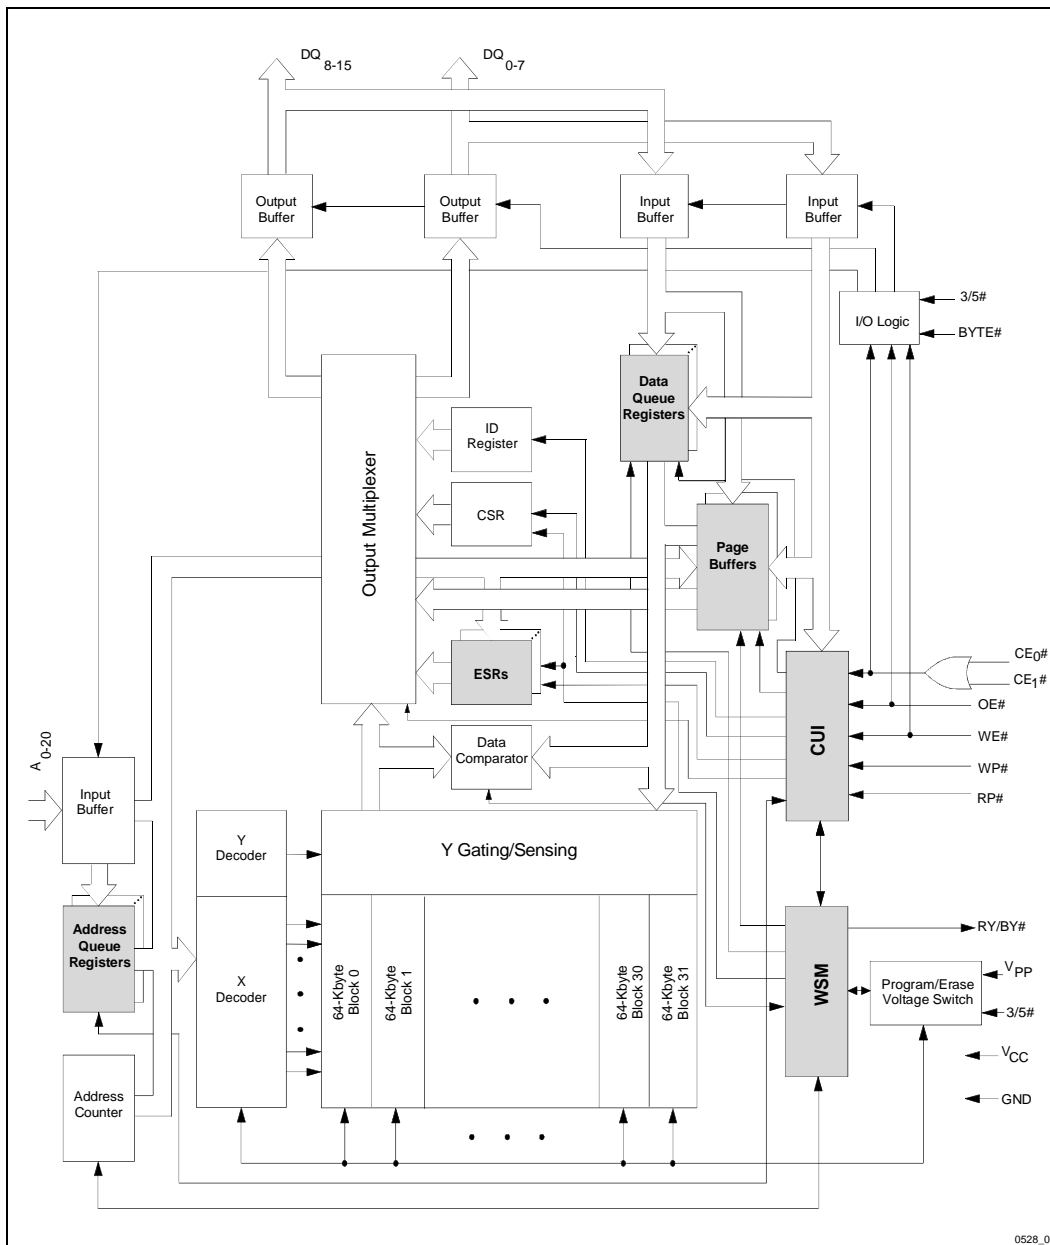
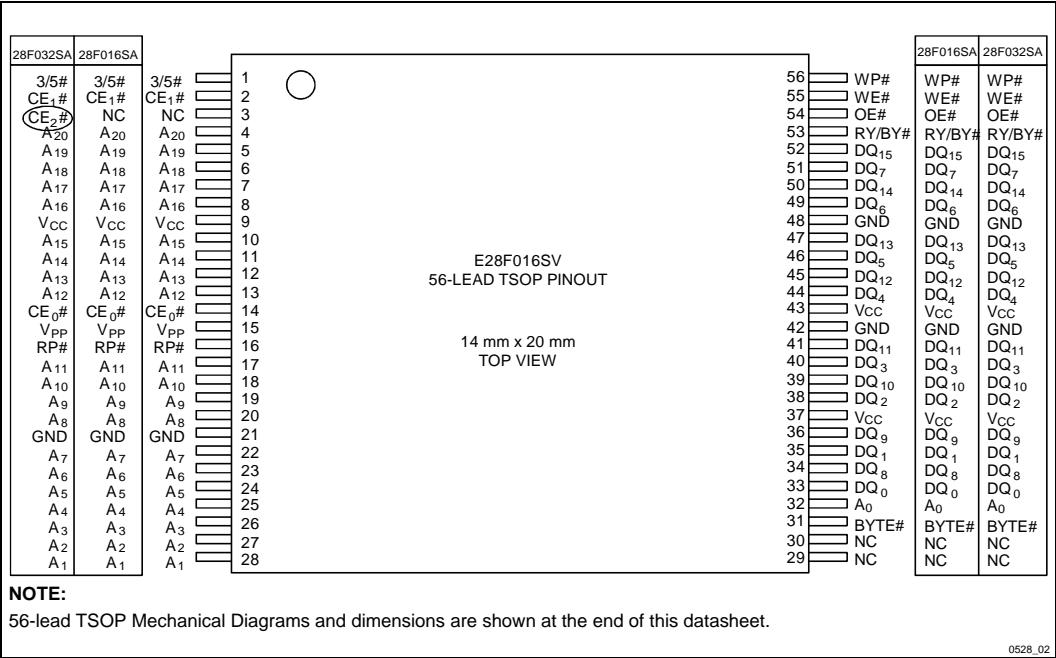

Figure 1. 28F016SV Block Diagram
Figure 2. 28F016SV 56-Lead TSOP Pinout Configuration
-004	<p>Added 3/5# pin to Block Diagram (Figure 1), Pinout Configurations (Figures 2 and 3), Product Overview (Section 1.1) and Lead Descriptions (Section 2.1)</p> <p>Added 3/5# pin to Test Conditions of ICCS Specifications</p> <p>Added 3/5# pin (Y) to Timing Nomenclature (Section 5.5)</p> <p>Increased t_{PHQV} Specifications at 5V V_{CC} to 400 ns for E28F016SV 065 devices and 480 ns for E28F106SV 070 devices.</p> <p>Modified Power-Up and Reset Timings (Section 5.9) to include 3/5# pin: Removed t_{5VPH} and t_{3VPH} specifications; Added t_{PLYL}, t_{PLYH}, t_{YLPH}, and t_{YHPH} specifications</p> <p>Added t_{PHL3} and t_{PHL5} specifications to Power-Up and Reset Timings (Section 5.9)</p> <p>Corrected TSOP Mechanical Specification A₁ from 0.50 mm to 0.050 mm (Section 6.0)</p> <p>Corrected SSOP Mechanical Spec. B (max) from 0.20 mm to 0.40 mm (Section 6.0)</p> <p>Minor cosmetic changes throughout document.</p>
A significant 28F016SV change occurred between datasheet revisions 290528-003 and 290528-004. This change centers around the addition of a 3/5# pin to the device's pinout configuration. Figures 2 and 3 show the 3/5# pin assignment for TSOP and SSOP Type 1 packages. Intel recommends that all customers obtain the latest revisions of 28F016SV documentation.
order address and address A_0 is not used (don't care). A device block diagram is shown in Figure 1.
The 28F016SV 56-lead TSOP and 56-lead SSOP Type I pinout configurations are shown in Figures 2 and 3.